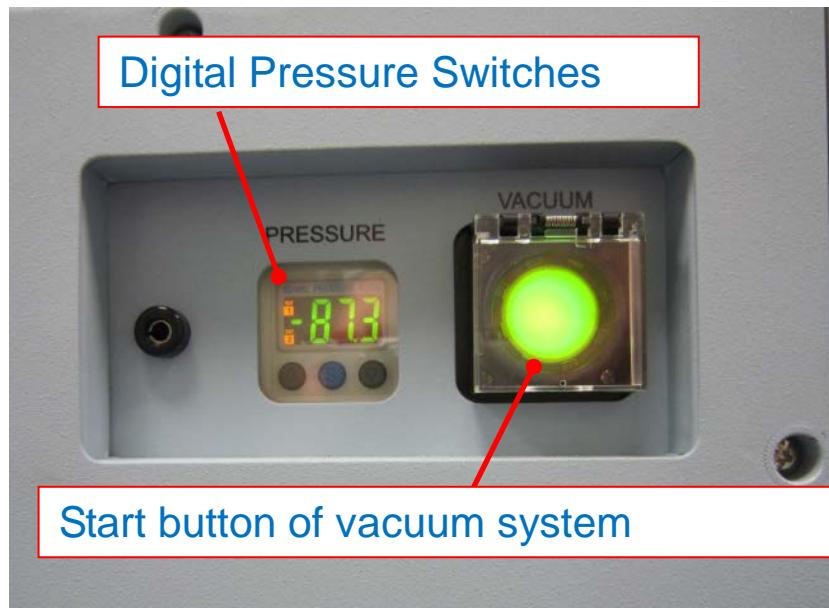

Figure 4-7 Start button of vacuum system & digital pressure switches
- (1) It indicates air tube is without air leakage when air pressure value is larger than -70Kpa as *Figure 4-7 shows*. Then go to *4.6 Testing Vacuum Gas Density for Single Zone*.
- (2) It indicates air tube has air leakage condition when air pressure value is smaller than -70Kpa. Next go to the step 3.